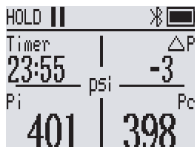

Figure 3 Pressure hold start interface
❶ The parameters of this step need to be connected to the APP for setting
❶ Short press any button to turn off the prompt sound
5. **Start leak test** : click after the device reaches  the pressure warning value to start the leak test , and the timer starts counting down (Figure 3) .